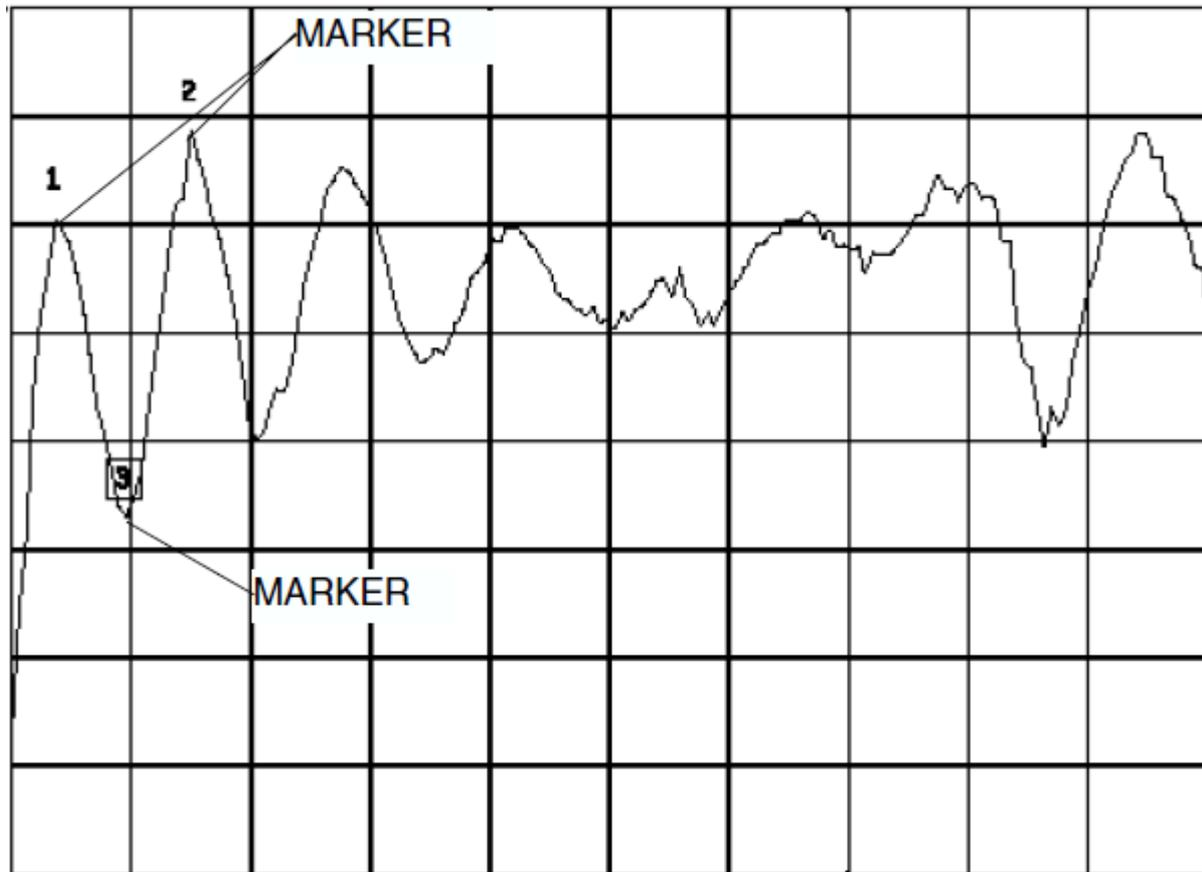

Figure 3-2. Markers Positioning
61. Using the mouse to move Mkr 1 and Mkr 2 to adjacent peaks of the ripple with the greatest negative trough (or adjacent troughs if the ripple has the greatest positive peak) in the frequency band of interest as shown in Figure 3-2.